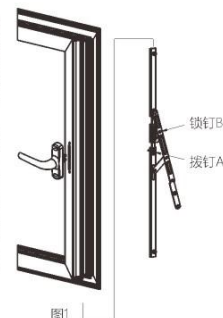

图1
1. 扇边安装: 将传动部分套入扇边的槽中,然后将执手转到90°时的拨叉槽口对准拨叉A插入后固定,然后把支撑块槽口对准锁钉B后拧紧内六角平端紧定螺钉固定支撑块。图1
- 扇边安装: 将传动部分套入扇边的槽中, 再把拨钉A插入传动杆中固定好, 然后将执手转到90°时的拨叉槽口对准拨钉A插入后固定, 然后把支撑块槽口对准锁钉B后拧紧内六角平端紧定螺钉固定支撑块。图1
1. Sash installation: Insert the driving part into the slot of sash, and insert the screw nail A into the transmission rod, then fix it. Then, rotating the handle to the position of 90 degree, the fork slot is aligned with the screw nail A, then fix it. After that, the supporting block notch should be aligned with the lock nail B to tighten the hexagonal fixing screw to fix the support block. Fig.1